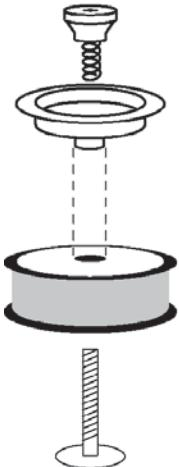
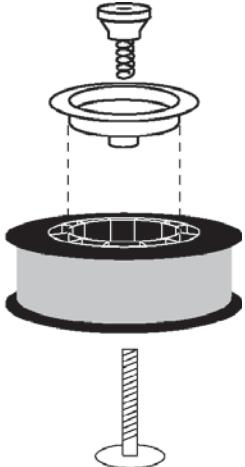

Figure 7A. Drive Brake Hardware Installation
Figure 7B. Spindle Adapter and Drive Brake Installation
- If you are installing a four-inch spool of wire, install the drive brake hardware on the top of the spool of wire according to figure 7A. If you are installing an eight-inch spool, install the spindle adapter and drive brake hardware as shown in Figure 7B. The purpose of the drive brake is to cause the spool of wire to stop turning at nearly the same moment that wire feeding stops.